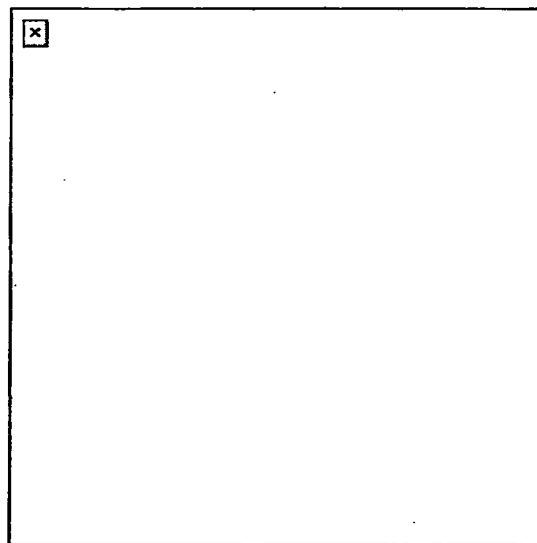

Figure 11. Removal of the ogive plunger.
- (1) Depress the flat leaf spring by using a cartridge link toggle (male end) or a small tool.
- (2) Slide the alignment guide toward the feeder mouth.
- (3) Pull rearward on the alignment guide and lift it out.
- h. Remove the ogive plunger by pulling it out (Figure 11).